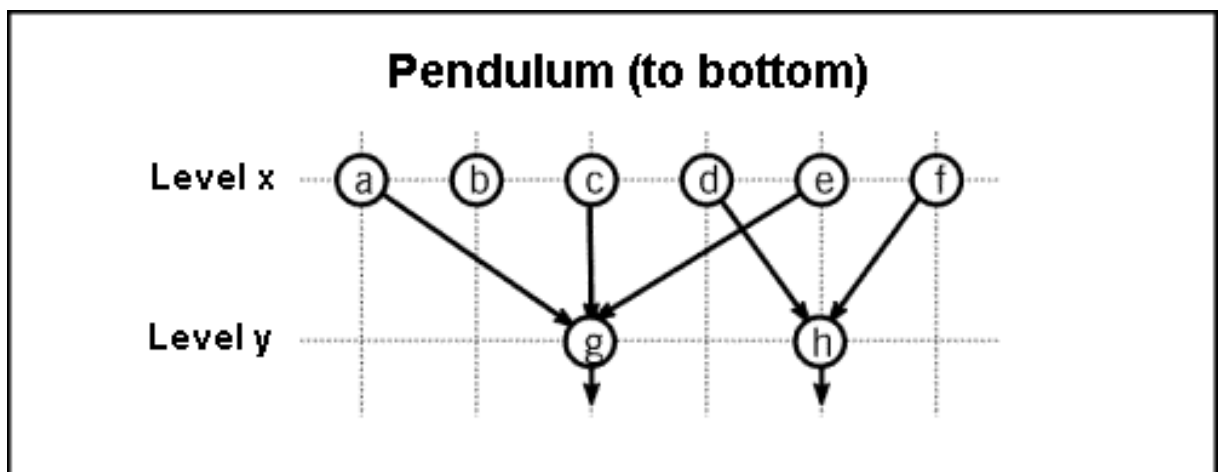

Figure 137: Schematic representation - Method pendulum down
- **Method pendulum down:** The horizontal position of an object at one layer is optimised according to the position of objects at hierarchically higher layers, which are linked with it (as far as possible) (see fig. 137). We recommend that this option should be activated with a maximum of 10 iterations.